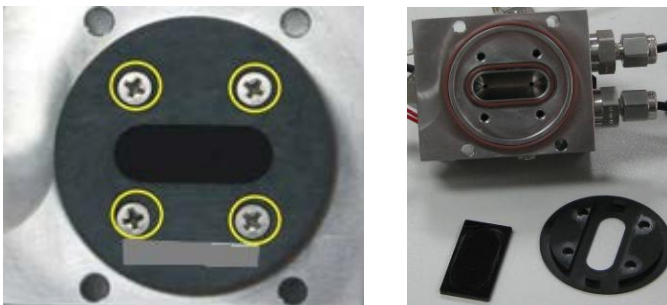

Figure 57 – Optical Filter Removal and Cleaning
6. Turn the reaction cell upside down and remove the four screws fastening the optical filter cover (refer to Figure 57).